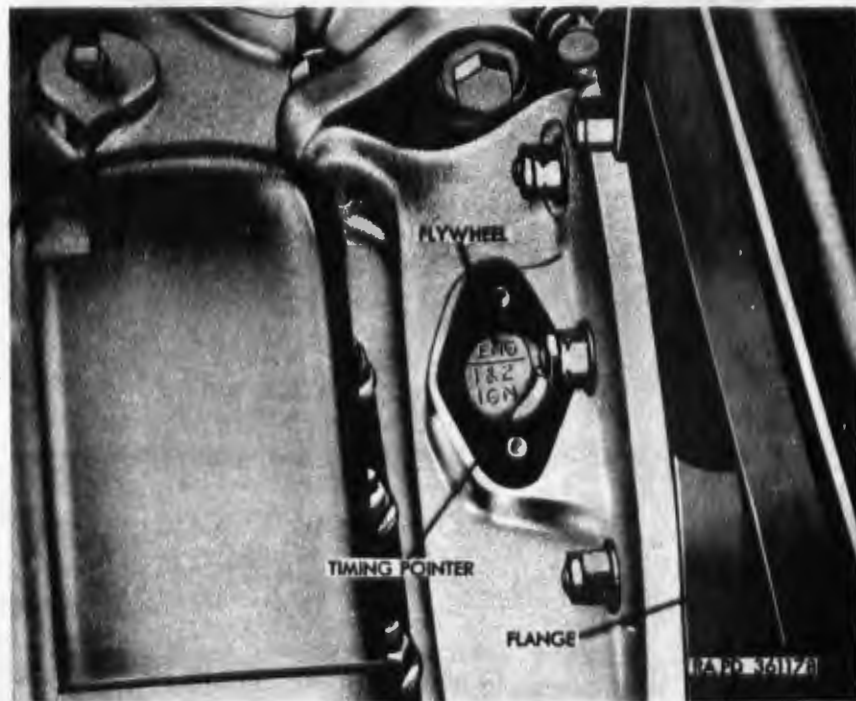

Figure 116. Engine flywheel ignition timing mark.
- (3) Remove two hex nuts and plain washers and remove cover from engine timing inspection hole so that timing marks on flywheel (fig. 116) can be seen.
- (4) Remove one spark plug (par. 148) from No. 1 cylinder and install in its place compression gage 41-G-124.